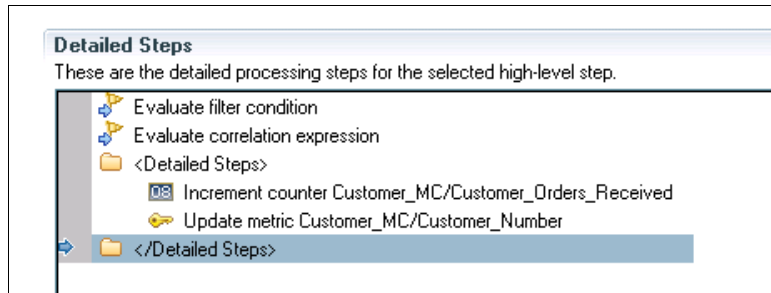

Figure 8-111 Stepping into processing
2. Step into the breakpoints for the incrementing of the counter and the update of the key metric. See Figure 8-111.